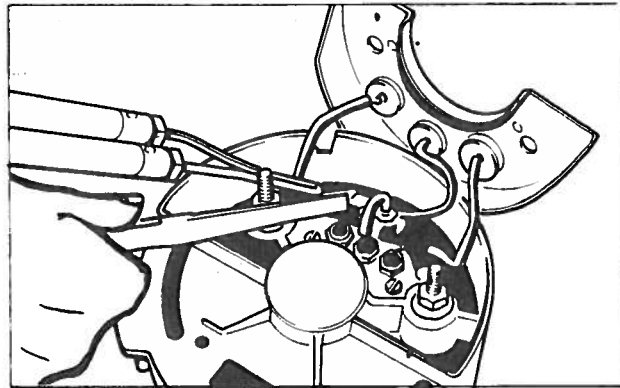

Fig. 58 Unsoldering stator leads and negative diode connections
9. Unsolder the stator leads and negative diode connections Fig. 58 then unscrew the exciter diodes' heat sink and remove together with the positive diodes' heat sink.